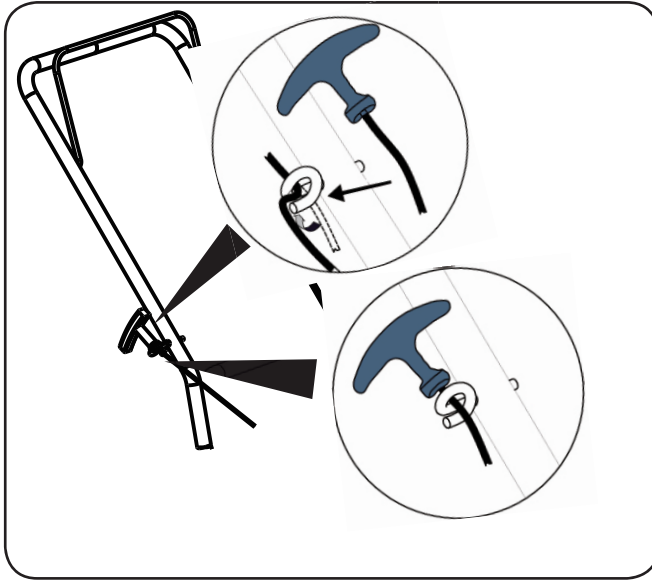

Figure 3-2
3. Put the starter rope into the hook. See Figure 3-2.